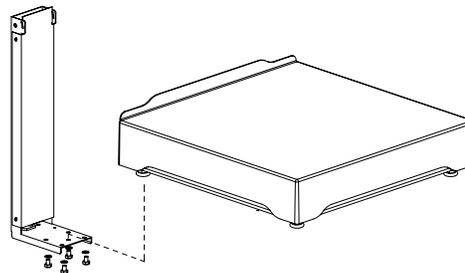

Figure 1-a
The SpeedWeigh and SpeedWeigh Plus scales' columns may need to be attached to their bases using the three (3) bolts and lock washers provided with the SW06 or the four (4) bolts and lock washers provided with the SW15, SW30, SW60, SW75, and SW150. (See Figure 1-a.) Store any extra load cell cable in the column. It may be necessary to remove the column cover.